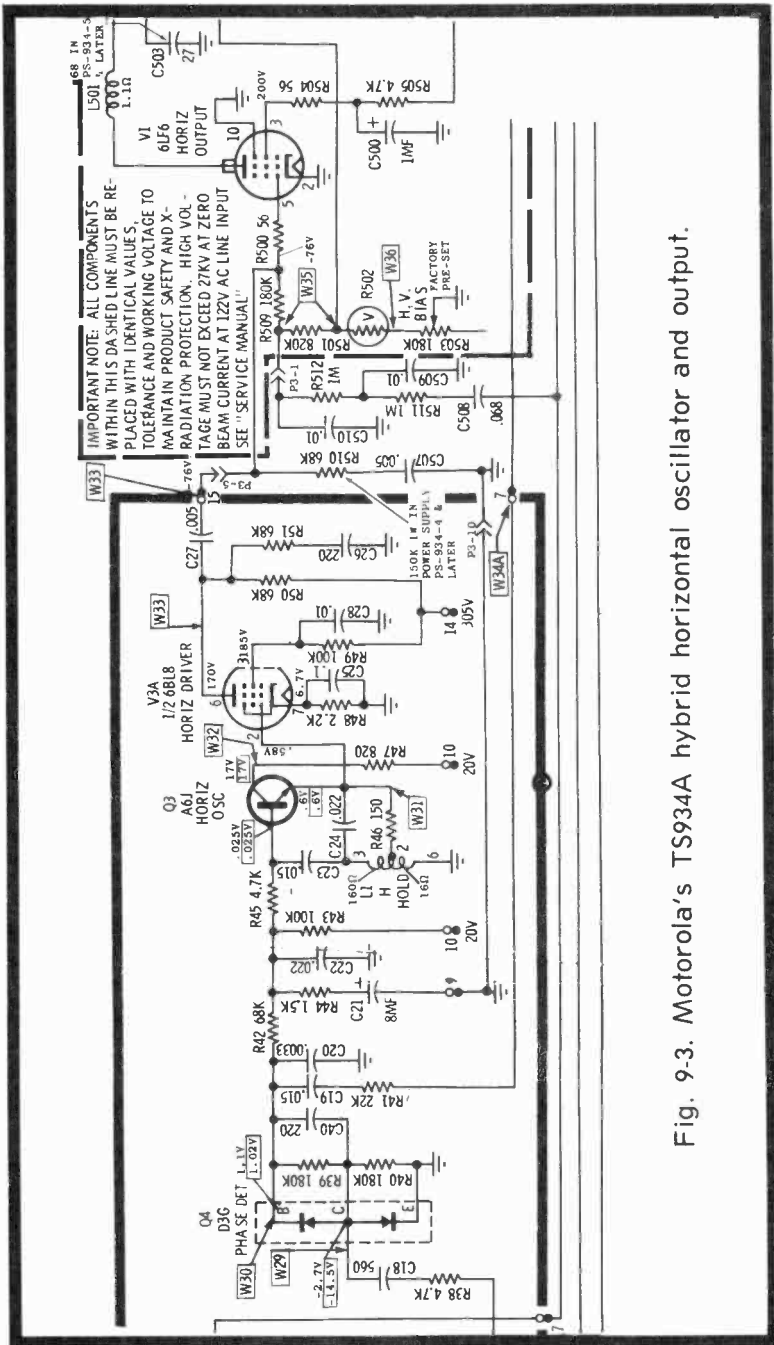

Fig. 9-3. Motorola's TS934A hybrid horizontal oscillator and output.
You might notice in Fig. 9-3 the protection system using high-voltage bias (varistor R502) and the voltage divider in the grid circuit of the 6LF6 horizontal output. This is the HV pulse-type output protection and limiting circuit we've been talking about. Regulating pulses arrive between R501 and R502 from the primary of the flyback and voltage-dependent resistor R502 increases and decreases in resistance, depending on the minimum and maximum amplitude of the flyback pulses. The R502 resistance change regulates the grid conduction of the horizontal output, so excessive current is not drawn because of beam current demand. The height of the
6. What function has the R44-C21 time constant in Fig. 9-3?